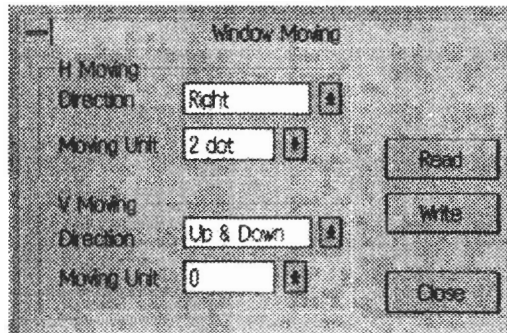

Figure 4-16
- "Window Move" (Figure 4-16):